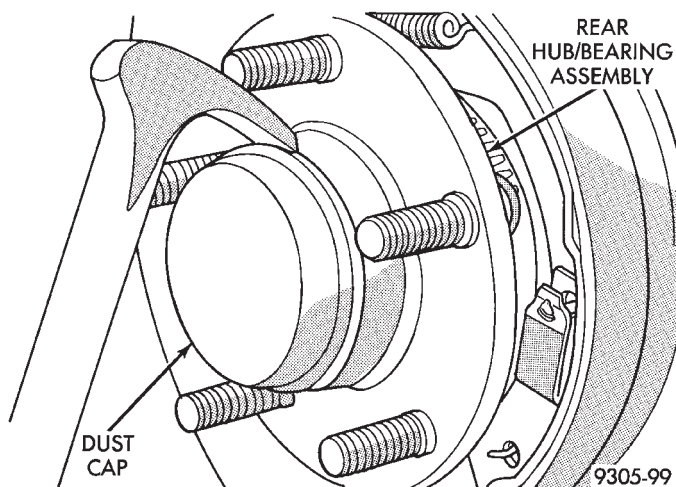
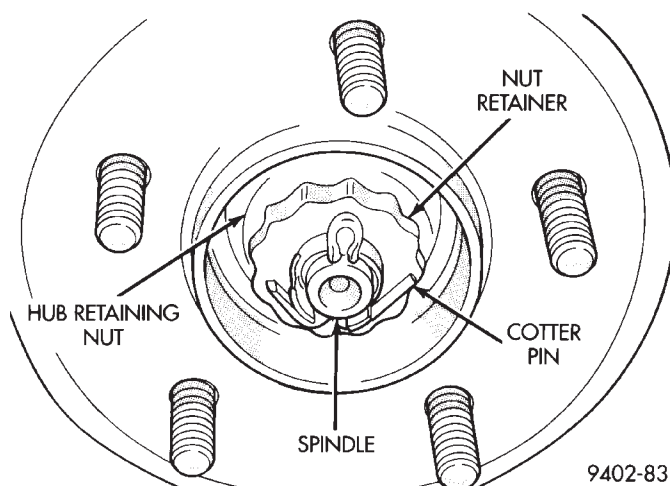

Fig. 84 Rear Hub And Bearing Dust Cap
Fig. 85 Hub And Bearing Retaining Nut
(1) Raise vehicle on jackstands or a frame contact type hoist. See Hoisting in the Lubrication And Maintenance section of this service manual for the required lifting procedure to be used for this vehicle.
(2) Remove rear wheel and tire assembly.
(3) If vehicle is equipped with rear disc brakes, remove disc brake caliper from the adapter.
(4) Remove the brake drum or the rotor from the hub/bearing.
(5) Remove rear hub and bearing assembly dust cap (Fig. 84).
(6) Remove rear hub and bearing assembly cotter pin, nut retainer and hub/bearing retaining nut and washer (Fig. 85). Then remove rear hub and bearing assembly from spindle.
(1) Install rear hub and bearing assembly on rear spindle. Install hub and bearing assembly washer and retaining nut (Fig. 85). Tighten the hub and bearing retaining nut to a torque of 168 N·m (124 ft. lbs.).
(2) Install wave washer, nut retainer and cotter pin on spindle.
(3) Install rear hub and bearing dust cap (Fig. 84).
(4) Install rear brake drum or rotor on hub.
(5) If vehicle is equipped with rear disc brakes, install rear disc brake caliper onto the adapter. Install the caliper assembly to adapter guide pin bolts and torque to 22 N·m (17 ft. lbs.).